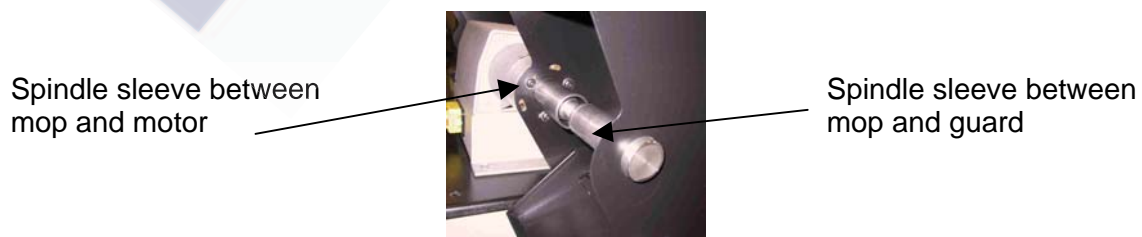

Fig 3: Spindle Sleeve Protection
- Protection Sleeves fitted over the spindle, both sides of the mop (fig 3). This means that the only moving parts of the machine that can be accessed are the mops themselves, thus reducing the risk of items getting caught in the machine.